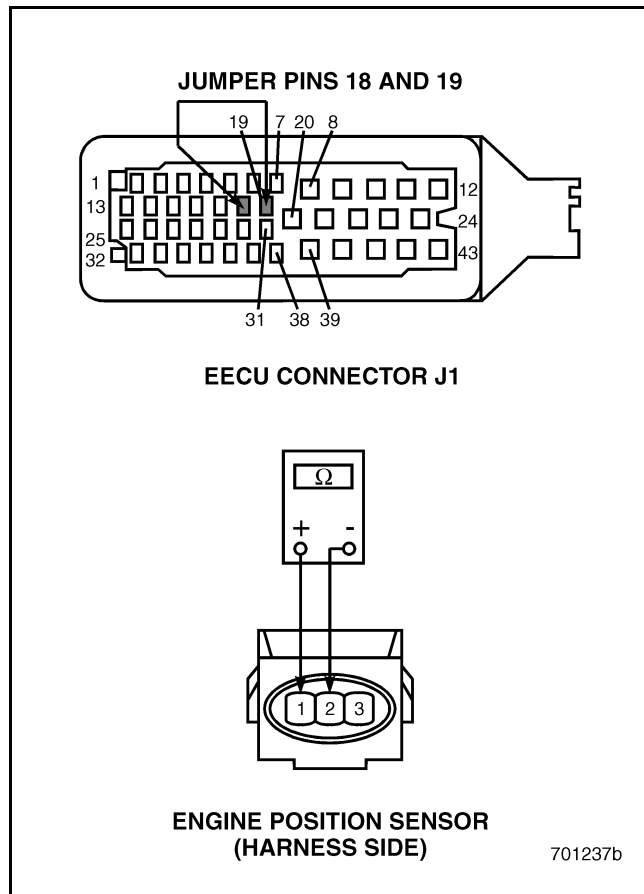

Figure 401
2. Disconnect the Engine Position (EP) Sensor connector.
5. Check for continuity between pins 1 and 2 on the harness side of the Engine Position (EP) Sensor connector (see Figure 401).